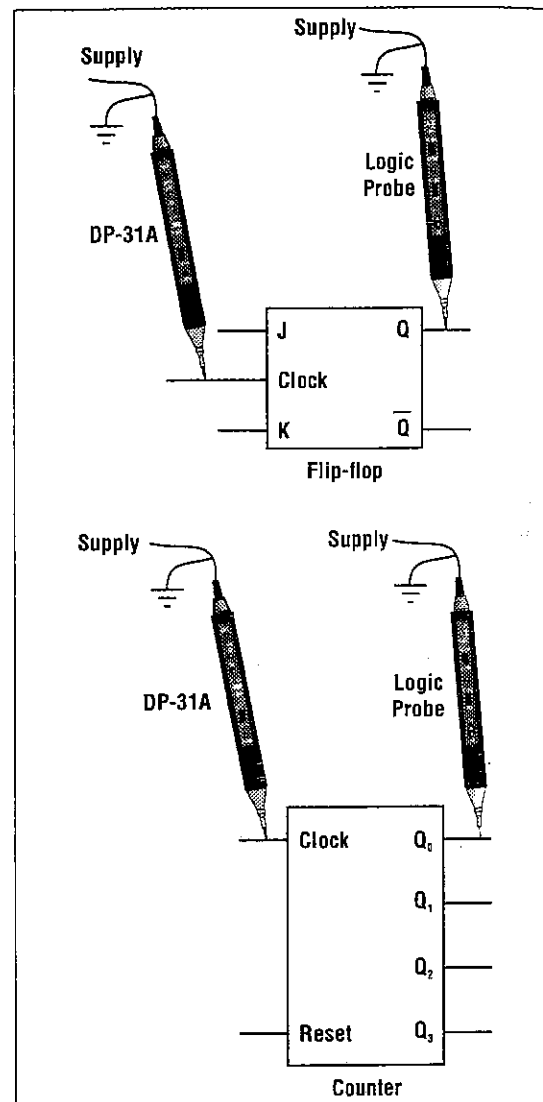
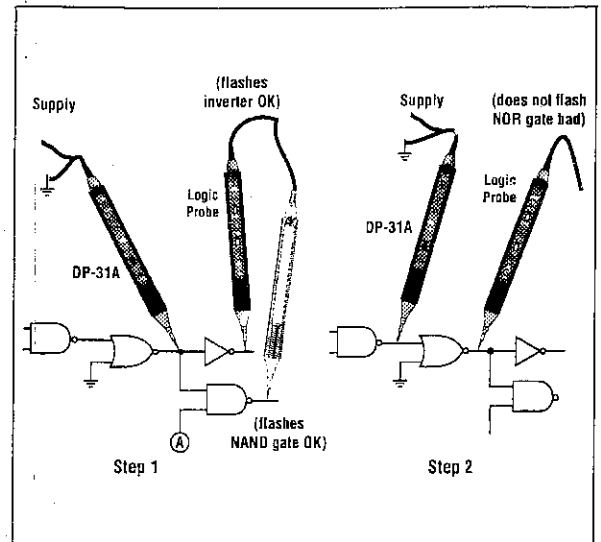

Figure 4.
Figure 3.
Devices in-circuit are usually affected by other circuits. For example, in Figure 3, if input A of the NAND gate is brought low by some other circuit, the output cannot toggle. Similarly, in Figure 4, inputs J and K must be high for the flip-flop to toggle, and an active Reset input on the counter will prevent it from counting. Other circuits may also be affecting the inputs dynamically while you are testing the device. The inputs should be checked with the logic probe to see if such conditions exist.
2. Hold the tip of the logic probe on the output of a suspected bad gate, as in Figure 3, or the output of a flip-flop or counter, as in Figure 4.